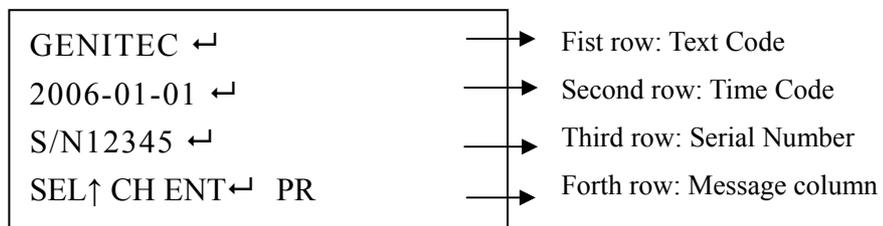

Figure 10
Step1. Please press the button  ; it will display the figure 10 as below.
Step2. After entry figure 10, message column will display "SEL↑ CH ENT←PR"; press the button  to edit main page, press  to print bar code (please refer to 8-3 for your editing reference)